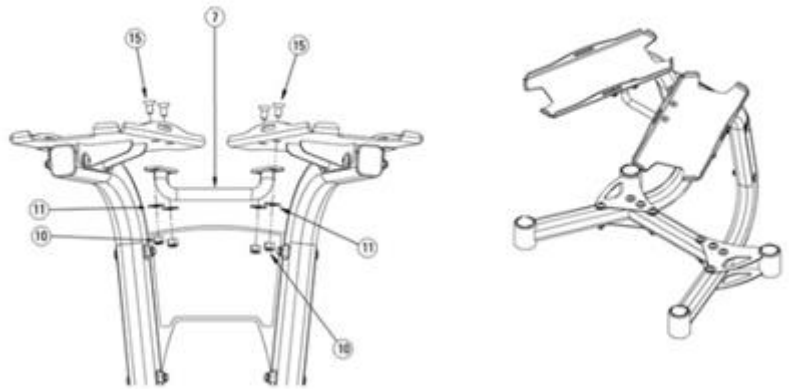

Fig. 4
1. Install the center plate (17) to both stand legs (4) using the hardware shown in figure 4.